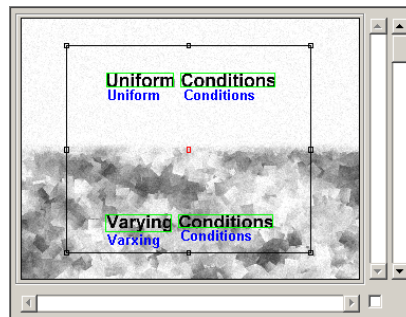
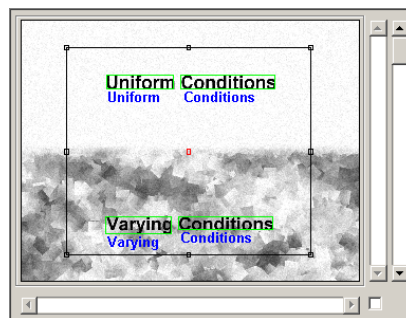

Figure 4.9: Result based on an OCR font trained for Uniform Conditions .
Figure 4.10: Result based on an OCR font trained for Varying Conditions .
- ☐ Load the image `ocr\synthetic_texture_01`. If necessary, place an axis-aligned, rectangular ROI as shown in figure 4.9.
- ① You can set default values for different types of characters and different image conditions. In figure 4.9 and figure 4.10 the results are displayed for an OCR font trained for Letters and Uniform Conditions as well as for an OCR font trained for Letters and Varying Conditions, respectively. The example project includes the corresponding fonts; you can select them via the combo box. The OCR font trained for uniform conditions was not able to read the text in the lower part of the image correctly.
- ② The classifier requires that all patterns, i.e., the extracted symbols that are fed into the classifier, have the same predefined size, e.g., 8 by 10 pixels. This is valid for both the training and the classification process. For this reason, all extracted symbols are automatically scaled to this size before they are fed into the classifier. You should increase the size of the pattern if the classifier seems to be unable to distinguish between all of the symbols properly.
- ③ Select the shape features to be used for the classification.
- ④ Select the moment features to be used for the classification.